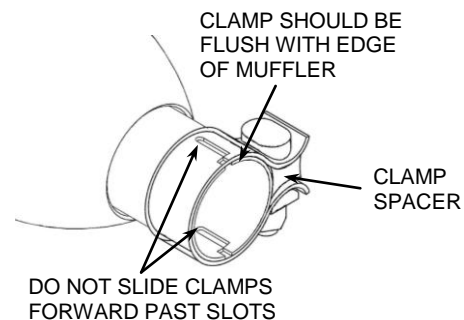

FIGURE 2
8. Tighten muffler clamps. (NOTE: The muffler clamps should be flush with the end of the muffler when tightened. See **Figure 2**. If the muffler clamps are slid forward past the slots on the slip collar the clamps will not tighten the mufflers properly. Also, make sure the clamp spacer is not over the slots. The slots need to be covered by the clamp band so that it seals the slots properly. Rotate the clamp if necessary).